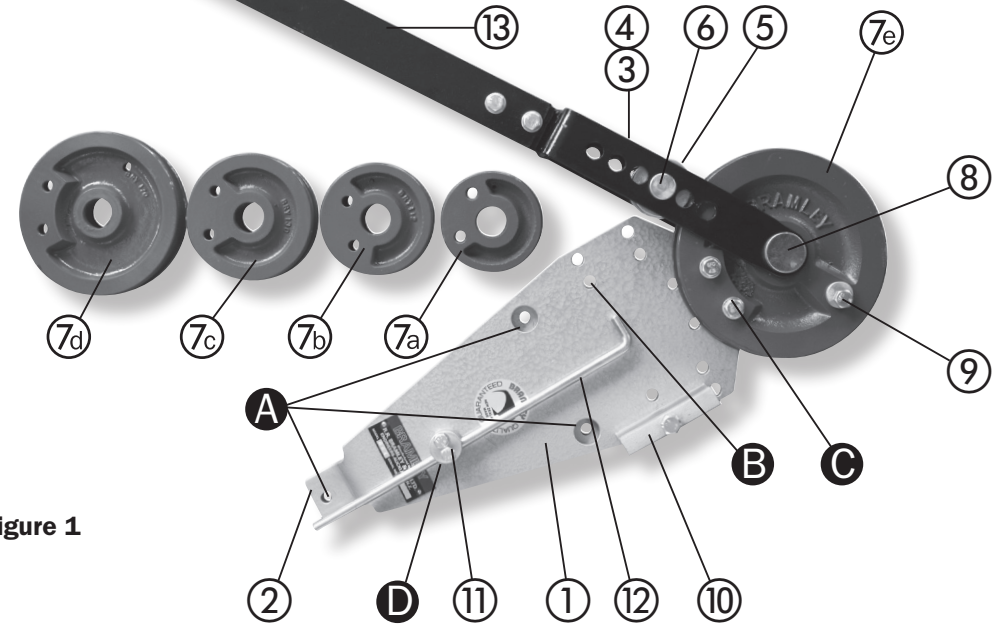

Figure 1
Thank you for purchasing the Bramley Manually Operated Tube Bending Machine. This Machine has been designed to bend thin wall tube up to 90° in one operation. It is very versatile allowing a large variety of tube and steel to be bent. The Bender, as illustrated in Figure 1, includes the 1/2", 5/8", 3/4", 7/8" and 1" Formers for round tube. Also available are Formers that will allow other sizes of material to be bent. These are listed in Table A.
When ordering spare parts, please refer to the parts list - Table B. The parts are numbered on Figure 1 to allow easy identification of parts required.
The Holes marked (B) in Figure 1 are used to position the Guide Block (Part No. 10). This Guide Block can be positioned anywhere over the eight holes to achieve the desired type of bend or radius. By moving the Guide